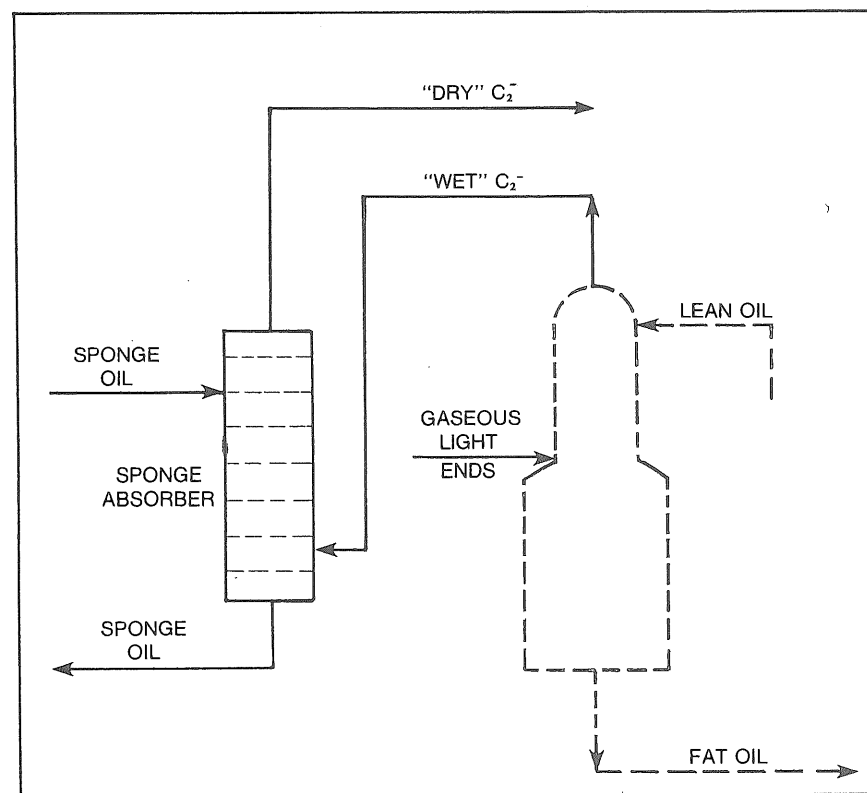

Fig. 7-4 —Sponge Absorption
7. *Sponge absorption*. One complication occurs when the lean oil is introduced to the rectified absorber. Some of the lean oil, usually heptane ( $C_7H_{16}$ ) or octane ( $C_8H_{18}$ ), vaporizes and goes out the overhead with the ethane and lighter ( $C_2-$ ). To recover the lean oil, the overhead is charged to the bottom of another absorber column and another heavier lean oil, called *sponge oil*, charged to the top. The overhead is almost all  $C_2-$ , the bottoms almost all lean oil as shown in Fig. 7-4.